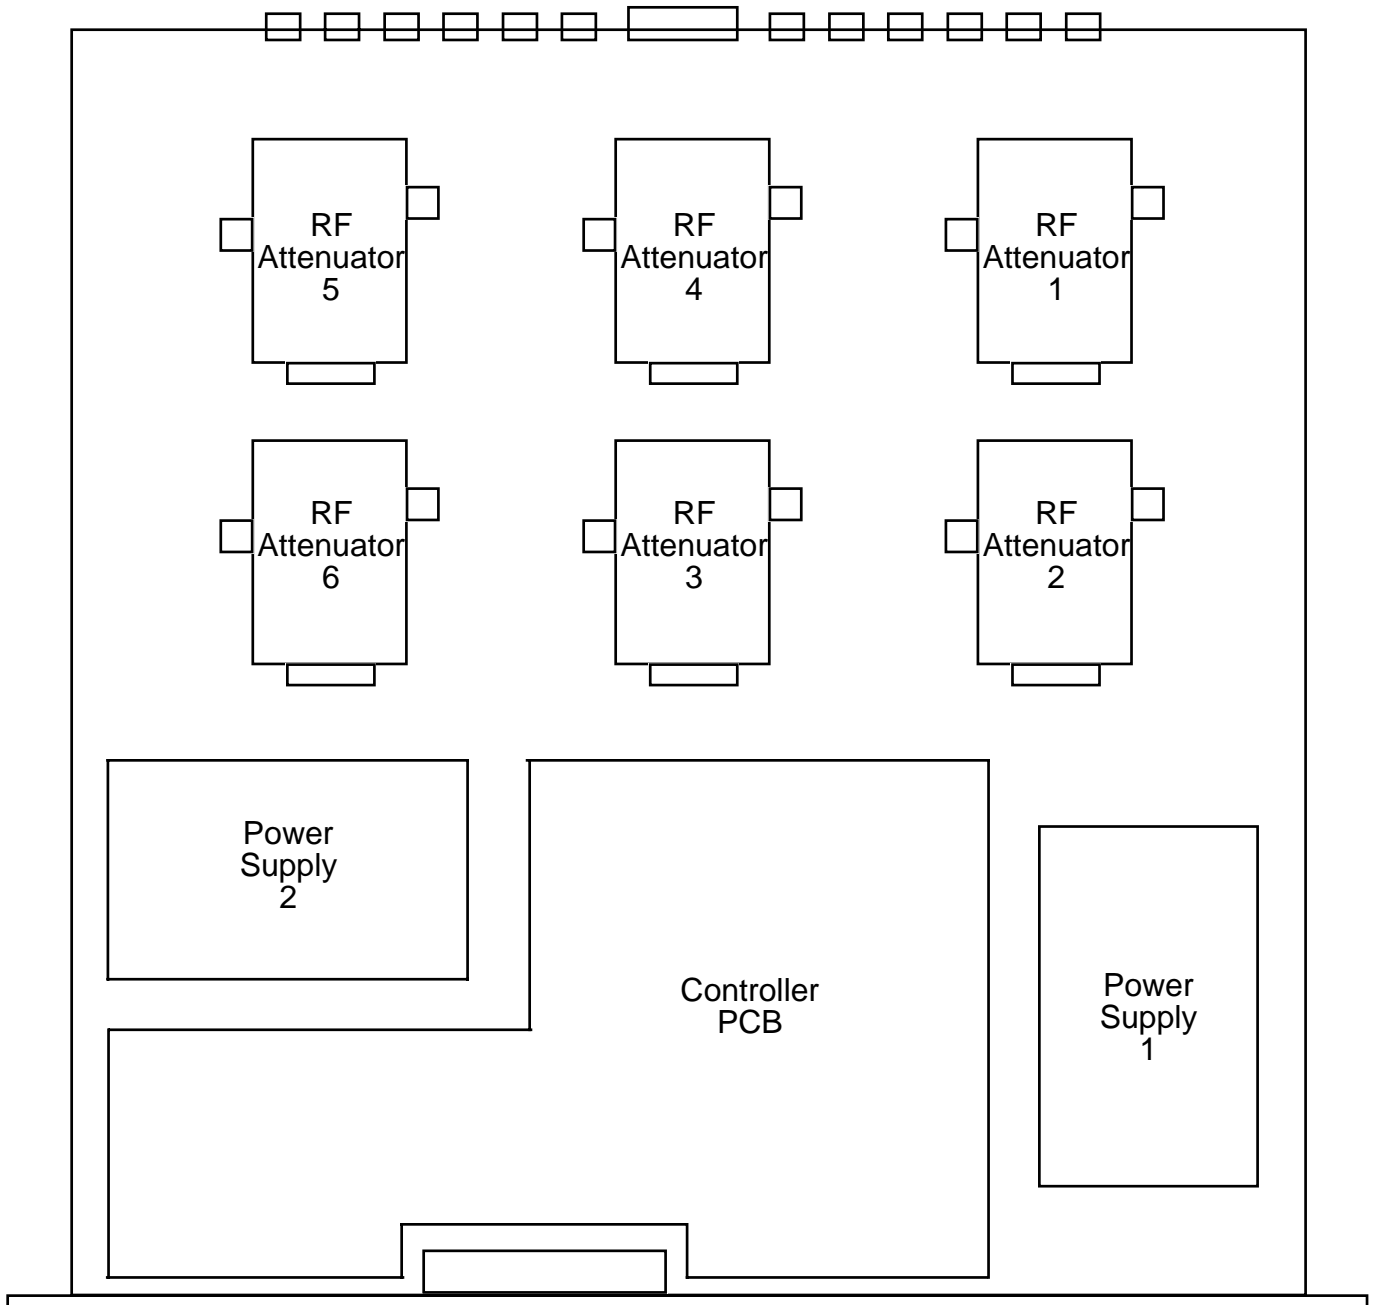

FIGURE 2.0 1586-06 Mechanical Assembly
2.1 Mechanical - The 1586-06 consists of one Controller PCB and six General Microwave Model 3496H-64-4 11 Bit Digital PIN Attenuators housed in a 1 RU (1 3/4 inch high by 19 inch deep) chassis. Two switching, ± 15 , +5 VDC power supplies provide redundant power for the assemblies. The 1586-06 can be secured to a rack using the 4 holes on the front panel. Figure 2.0 shows how the 1586-06 is assembled.